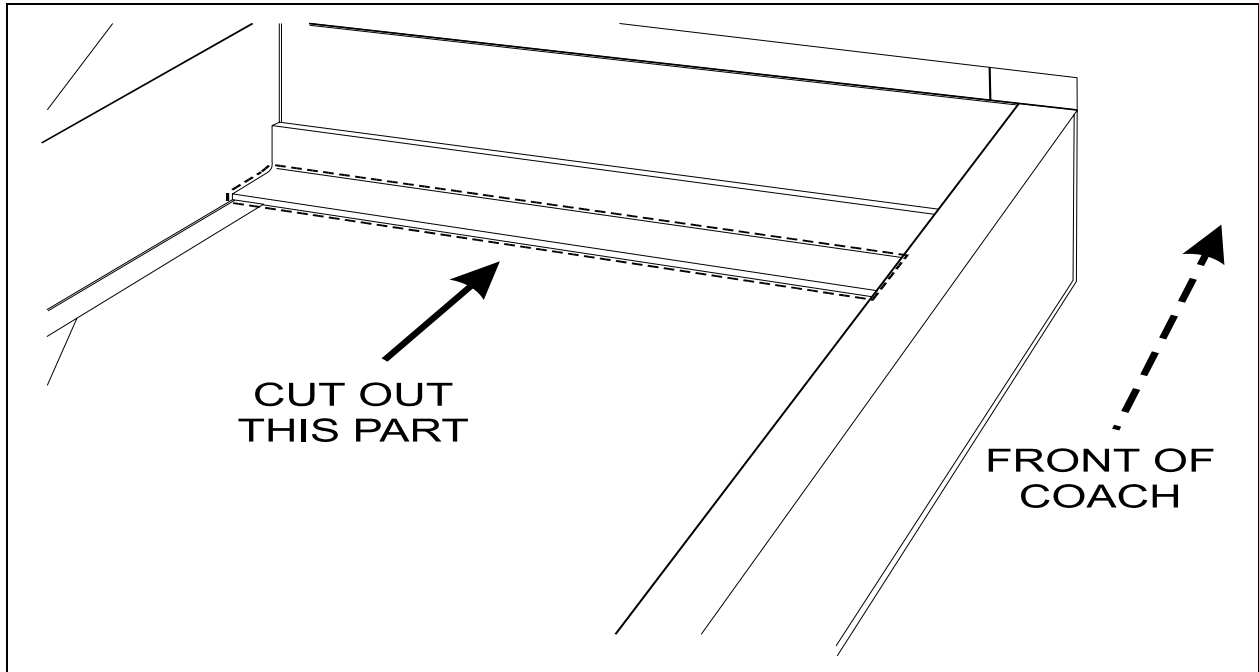

FIGURE 3: RIGHT HAND SIDE ENGINE COMPARTMENT, LOCATION OF SUMP TANK
12. Using a cutting torch, cut out (if necessary) the horizontal portion of the angle iron inhibiting the installation of the new sump tank (Fig. 3).